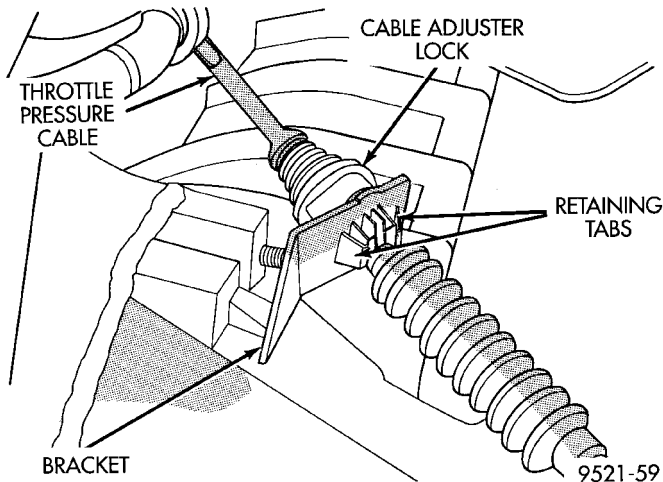

Fig. 18 Throttle Pressure Cable Bracket
(2) Squeeze the retaining tabs inward at the mounting bracket (Fig. 18). Remove the cable from the bracket.
(1) Perform transaxle throttle pressure cable adjustment while engine is at normal operating temperature.
(2) Release cross-lock on the cable assembly (pull cross-lock upward) See (Fig. 18).
(3) To insure proper adjustment, the cable must be free to slide all the way toward the engine, against its stop, after the cross-lock is released.
(4) Move transaxle throttle control lever fully clockwise, against its internal stop, and press cross-lock downward into locked position.